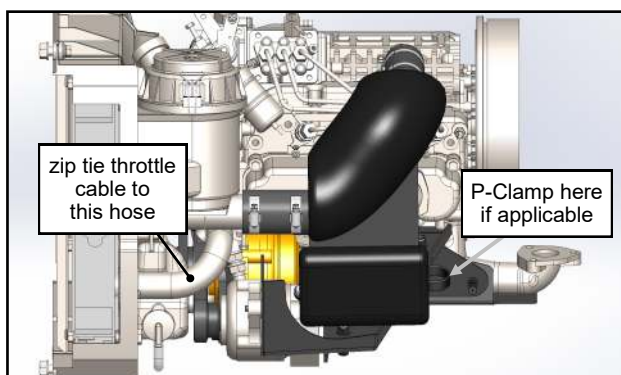

Fig. 2.25 (Secure Throttle Cable & Heater Line)
2.26 If vehicle is equipped with optional heater, route the coolant line over the top of the engine and use the supplied P-Clamp to attach to 1 of the 3 optional mounting holes on the side flange of the upper auxiliary alternator bracket. See fig. 2.25.